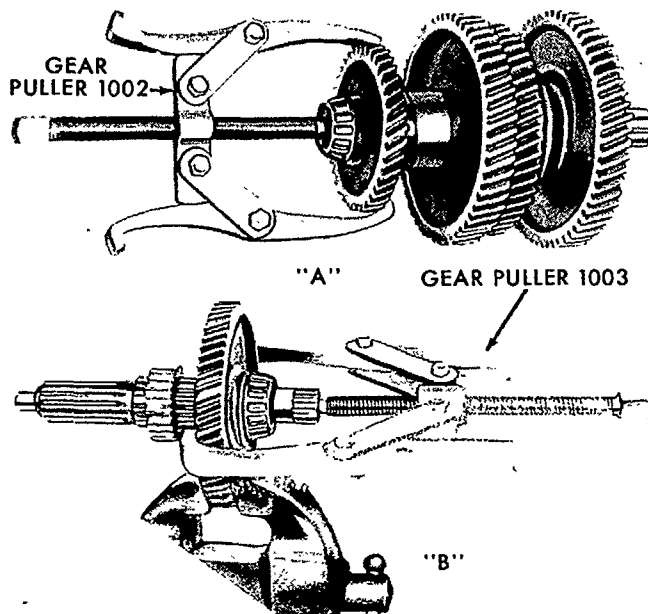

Figure 12
2. Remove the 4th gear, thrust washer, and front bearing with Gear Puller No. 1002, as shown in "A", Figure 12.
4. Remove the 1st gear, thrust washer, rear bearing and oil seal sleeve with Gear Puller No. 1003, as shown in "B", Figure 12.